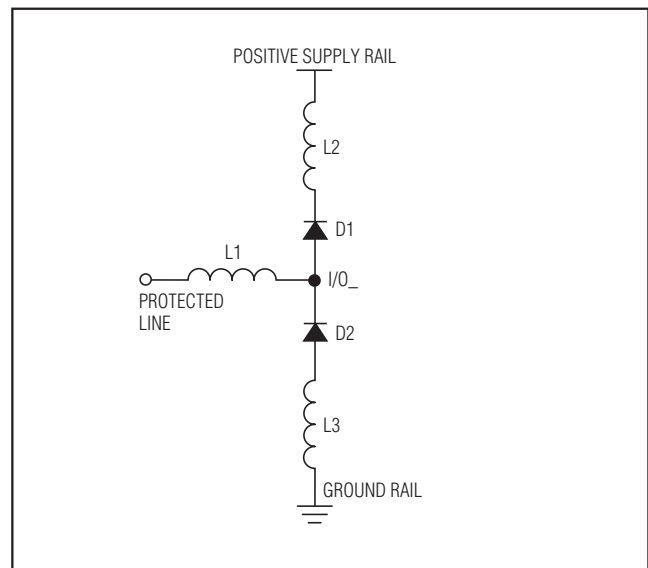

Figure 1. Parasitic Series Inductance
**Note 3:** Idealized clamp voltages (L1 = L2 = L3 = 0) (Figure 1 ); see the *Applications Information* section for more information.
In reality, the effect of the parasitic series inductance on the lines must also be considered (Figure 1).